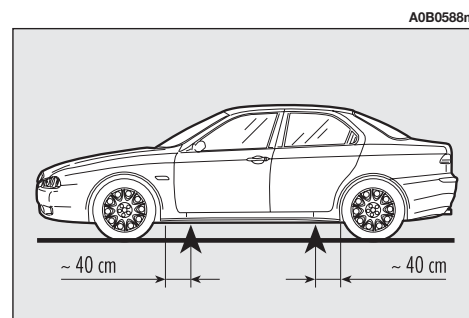

fig. 79
*The car is to be lifted positioning the jack or the workshop lift arm plate only in the points shown (fig. 79).*
The vehicle must only be lifted laterally positioning the ends of the arms or the workshop lift in the areas illustrated, approx. 40 cm from the profile of the wheelhouse (fig. 79).